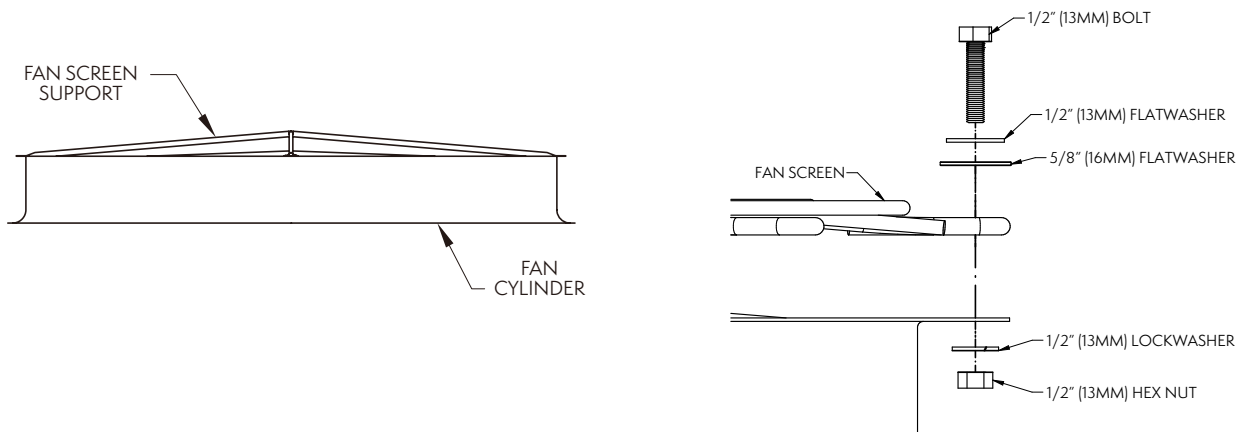

Figure 24 – Fan Screen Support & Fan Screen installation
1. Set the fan screen support across the top of the fan cylinder as shown in **Figure 24**.
4. At each hole, attach the fan screen to the fan cylinder as shown in **Figure 24**. At the four* points where the fan screen support meets the cylinder, bolt the support to the cylinder together with the fan screen.